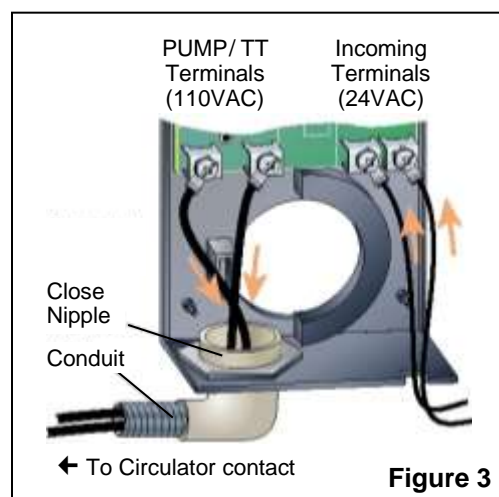

Figure 3
- *Line Voltage* (Figure 3) - If using the PUMP/TT contacts to operate a circulator or another 110VAC output, use the knockout with appropriate close nipple at the bottom of the TPI case.